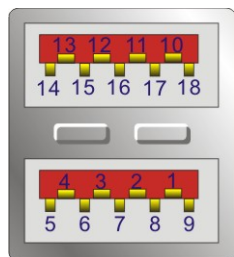

Figure 3-26: USB 3.2 Gen 2 Port Pinouts
- CN Pinouts:** See **Table 3-26** and **Figure 3-26**